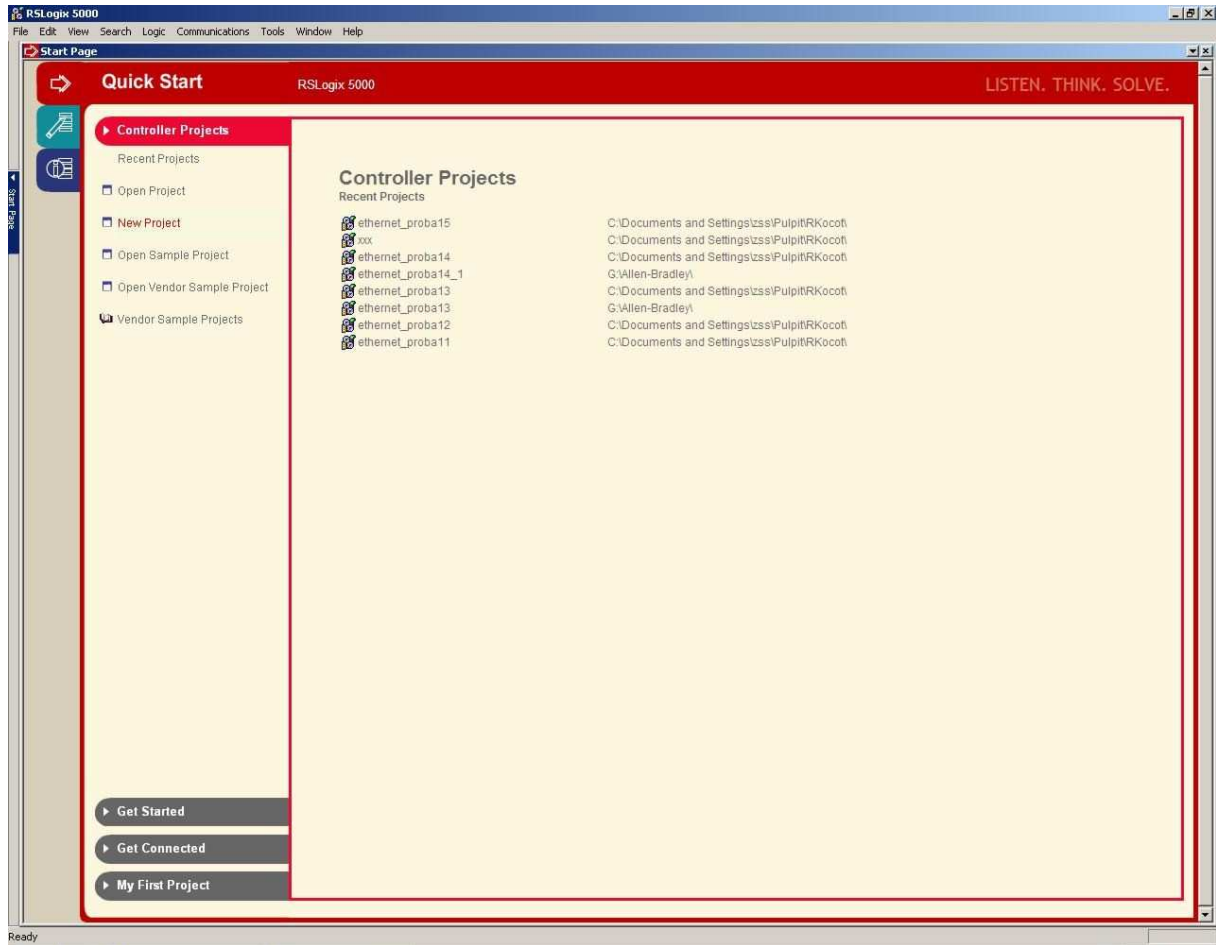

Fig. 1m.3. The RSLogix5000 new project main window
2) Create a new project by selecting the **New Project** item (or the **File\New** menu item). The *New Controller* dialog window is displayed (see Fig. 1m.4). The following parameters must be set: